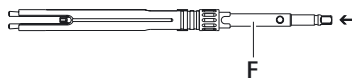

Fig. 3
- Insert screwdriver **F** into clamping sleeve **2** from the rear end. Ensure that the lateral lugs slide into the grooves right to the bottom, see Fig. 3.